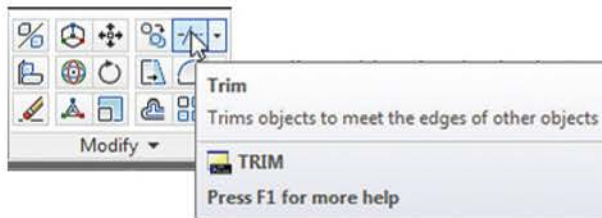

Fig. 6.27 The Trim tool from the Home/Modify panel
2. Call **Trim** – either *left-click* its tool icon in the **Home/Modify** panel (Fig. 6.27), *pick* **Trim** from the **Modify** drop-down menu, or *enter* **tr** or **trim** at the command sequence, which then shows: